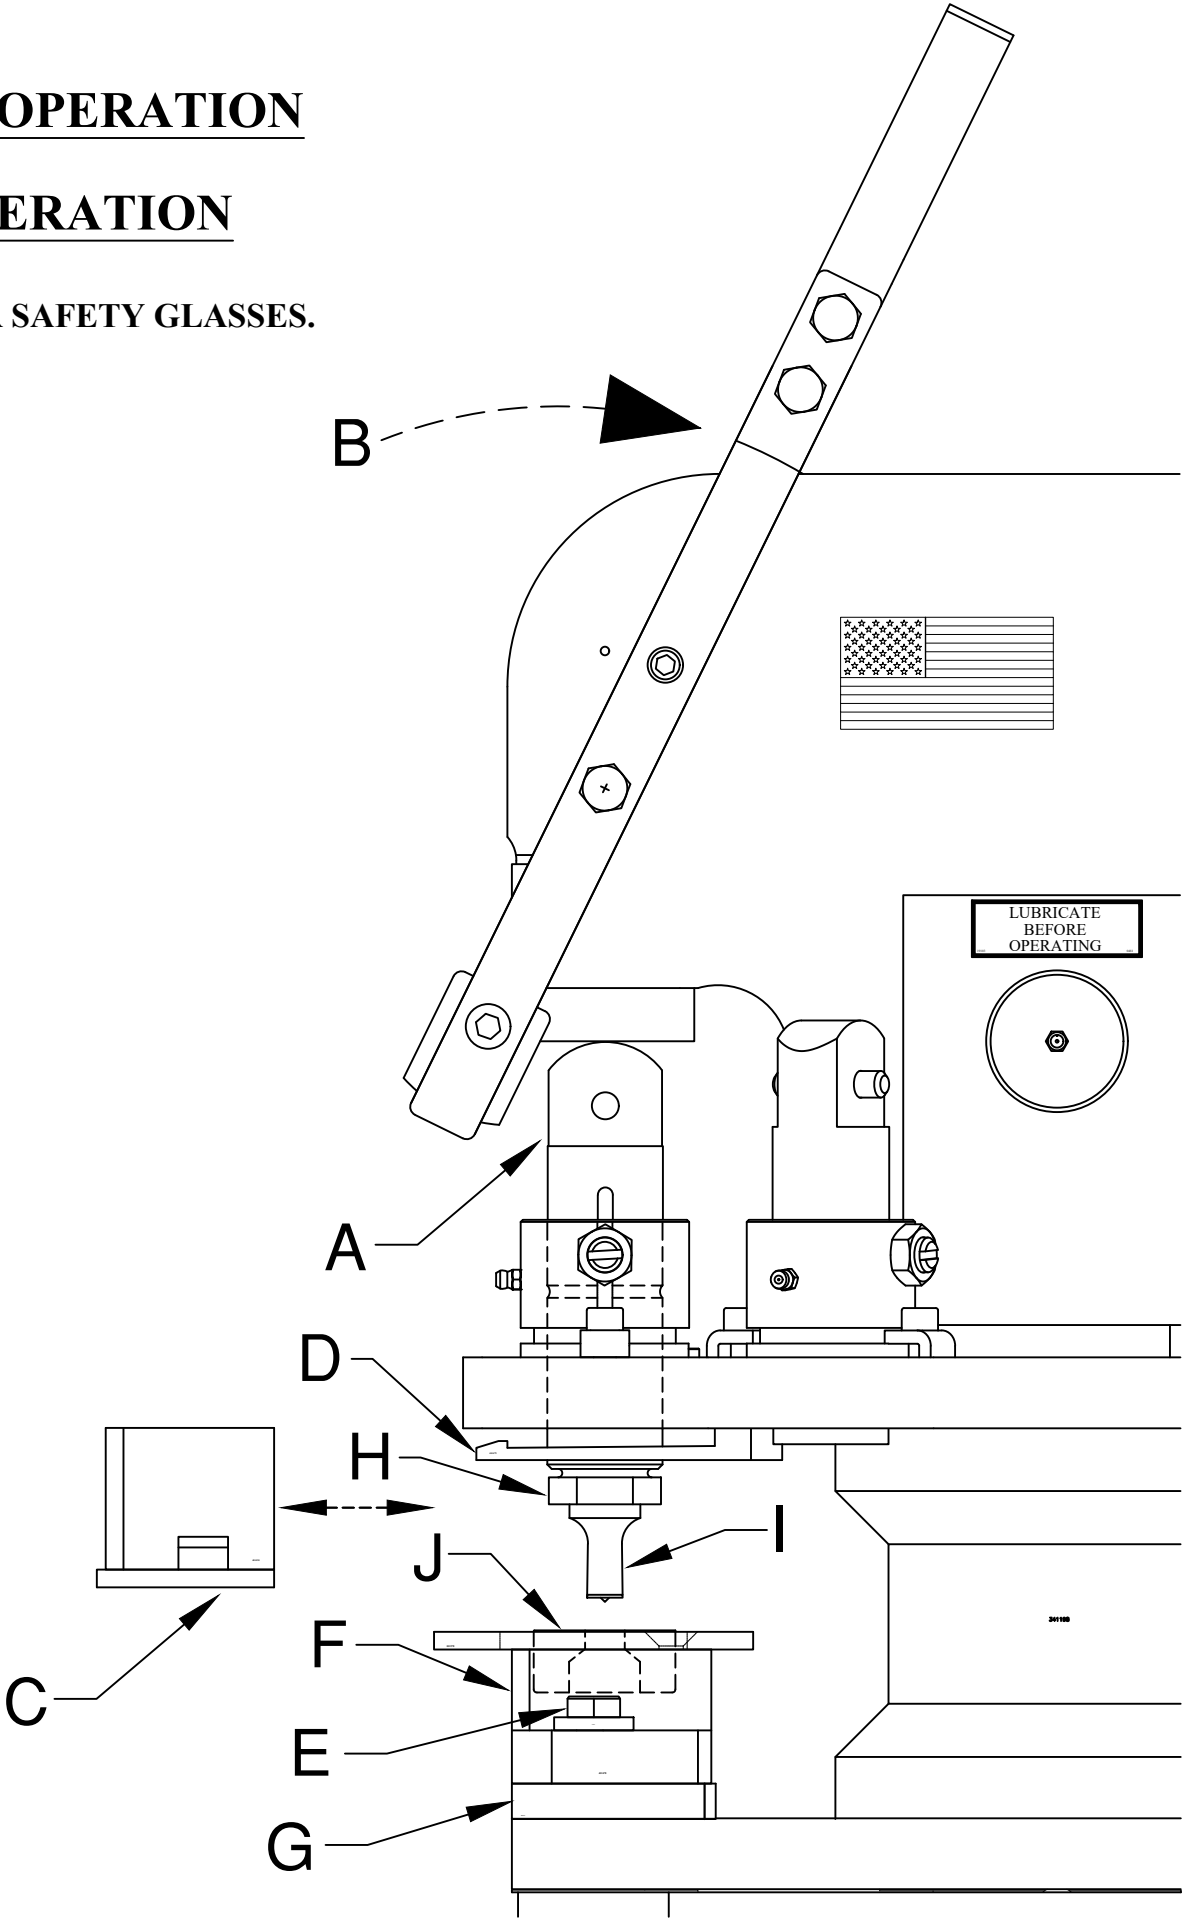

FIGURE 9
**REFER TO FIGURE 9 ON THE PRECEDING PAGE.**